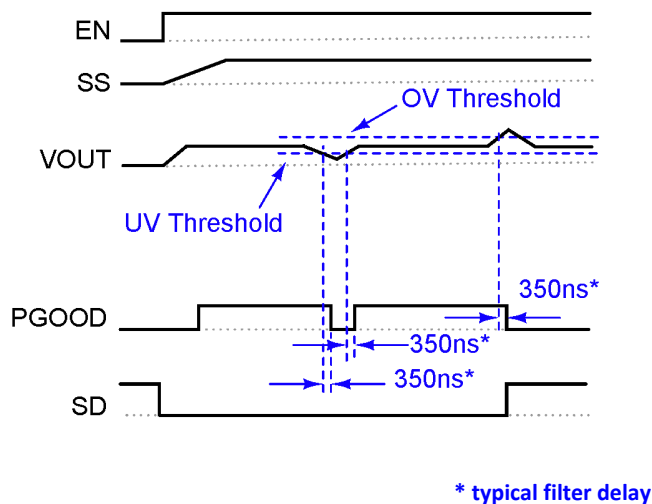

Figure 24: Under/Over Voltage Monitor
The IR3475 monitors the voltage at the FB node through a 350ns filter. If the FB voltage is below the under voltage threshold, UV# is set to LOW holding PGOOD to be LOW. If the FB voltage is above the over voltage threshold, OV# is set to LOW, the shutdown signal (SD) is set to HIGH, MOSFET gates are turned off, and PGOOD signal is pulled low. Toggling VCC or EN will allow the next start up. Figure 24 and 25 show PGOOD status change when UV/OV is detected. The over voltage and under voltage thresholds can be found in the Electrical Specification section.